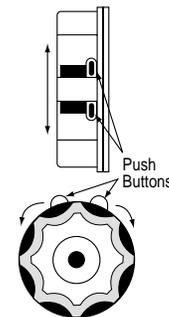

Figure 15
- ① Adjust limit switches so the fabric can be completely drawn or retracted without the slat bar leading edge going beyond the fabric retention guides located at the upper end of each side channel. Limit switches are set by the installer.
- C. Set upper limit by depressing and releasing the proper push button (see Fig. 15).